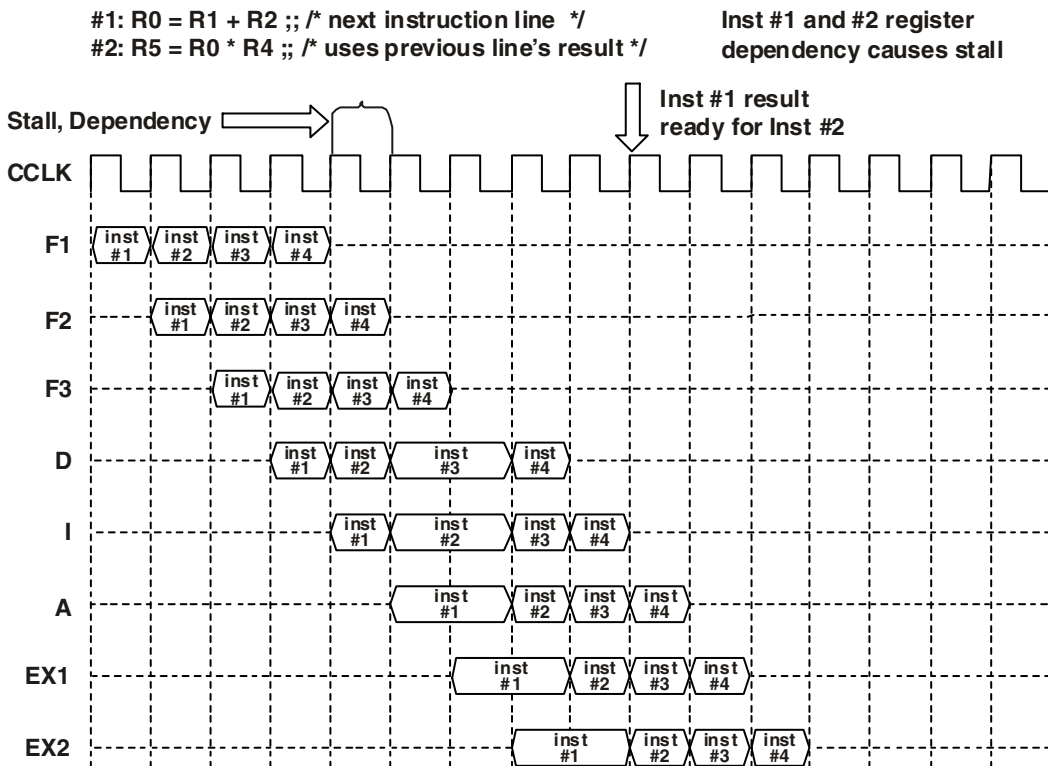

Figure 7-33. Compute Block Operations—
Figure 7-33 shows two compute block instructions. Execution of instruction #2 is dependent on the result from instruction #1. The pipeline inserts a one-cycle stall at the Integer stage (I) when the register dependency is recognized. Execution of instruction #2 is stalled for one cycle.